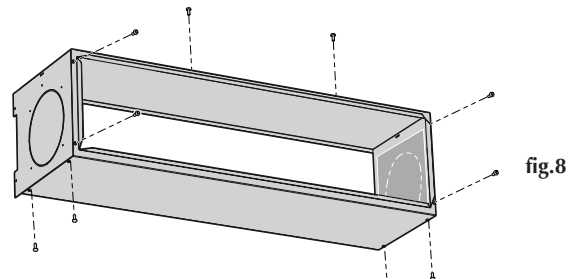

fig.8
- Remove the ten screws of the RPA\_V accessory (fig.8). For size RPA670V the two lower screws of the internal support bracket must also be removed.